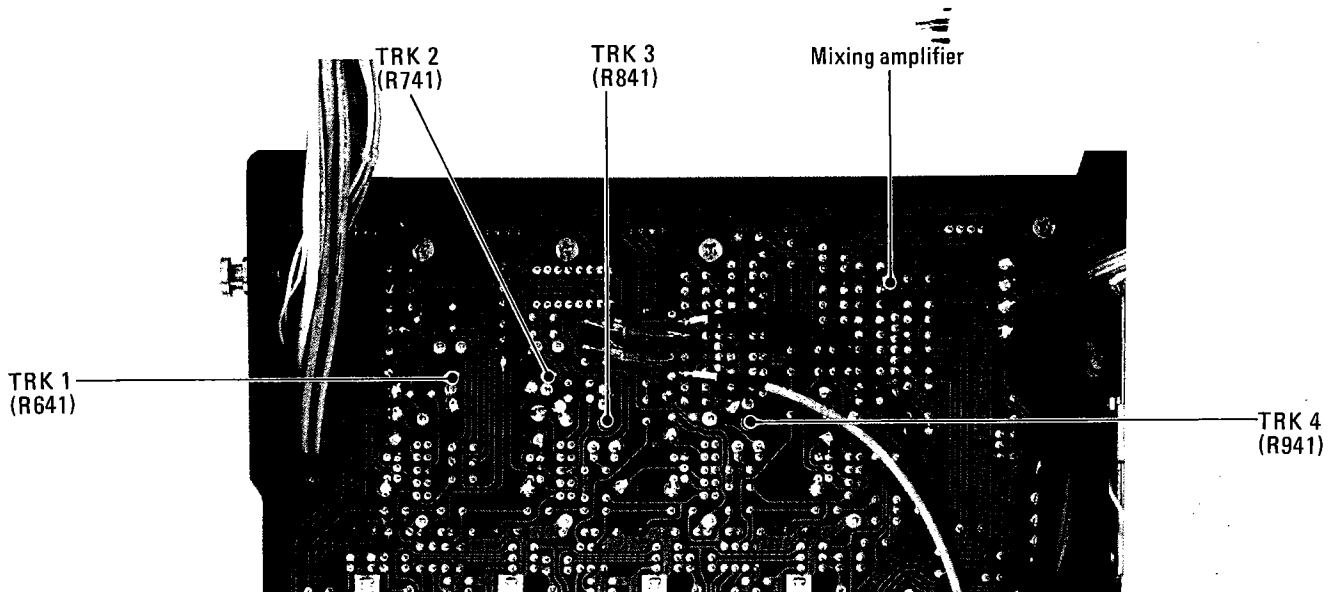

Fig. 9-1 VU meter level adjustment
Adjust following the trim pots (Fig. 9-1) so that each meter indicates "0VU" under the conditions with the TRIM knobs set as mentioned in the item 9-1. (Or test terminals TP9 - TP12 indicate -10 dBV.)